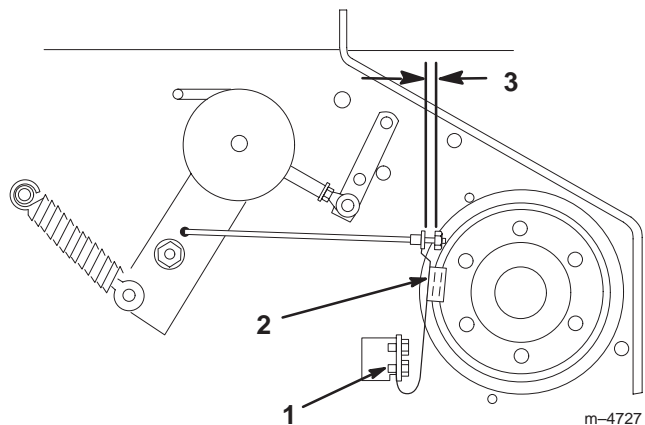

Figure 48
2. If necessary, adjust the spring mounting bolts so that the blade brake pad rubs against the pulley edges (Fig. 48).
3. Adjust the nut at the end of the blade brake rod until there is 3mm–5mm (1/8”– 3/16”) between the nut and spacer (Fig. 48).